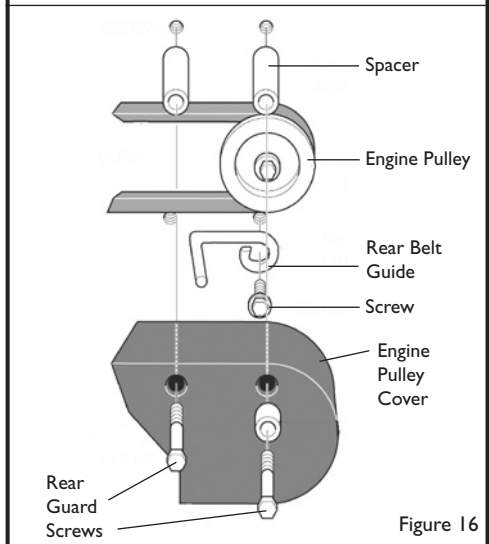

Figure 16
3. Remove the two screws and spacers from the top of the engine pulley cover. Remove the engine pulley cover. (See Figure 16)